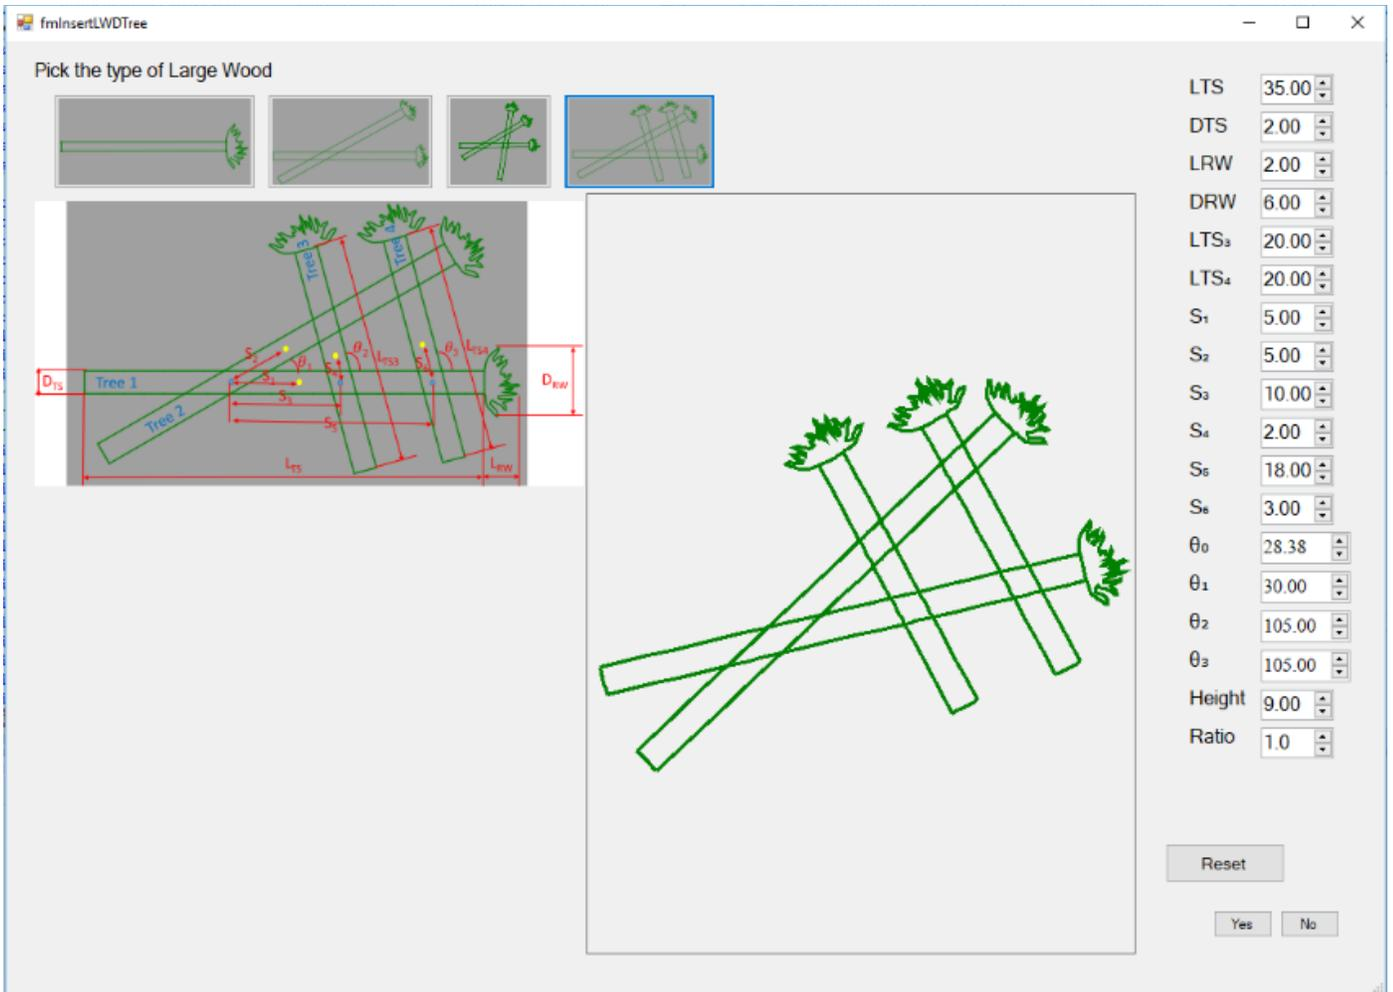

Figure 3-18. Form to pick the type of large wood structure and set the dimensions of the structure.
3. Select one of the four types of more complex pre-defined large wood structures in the form. The form will change its representing figure into the selected structure (Figure 3-18) and provide parameter input names and NumericUpDown controls for the structure.